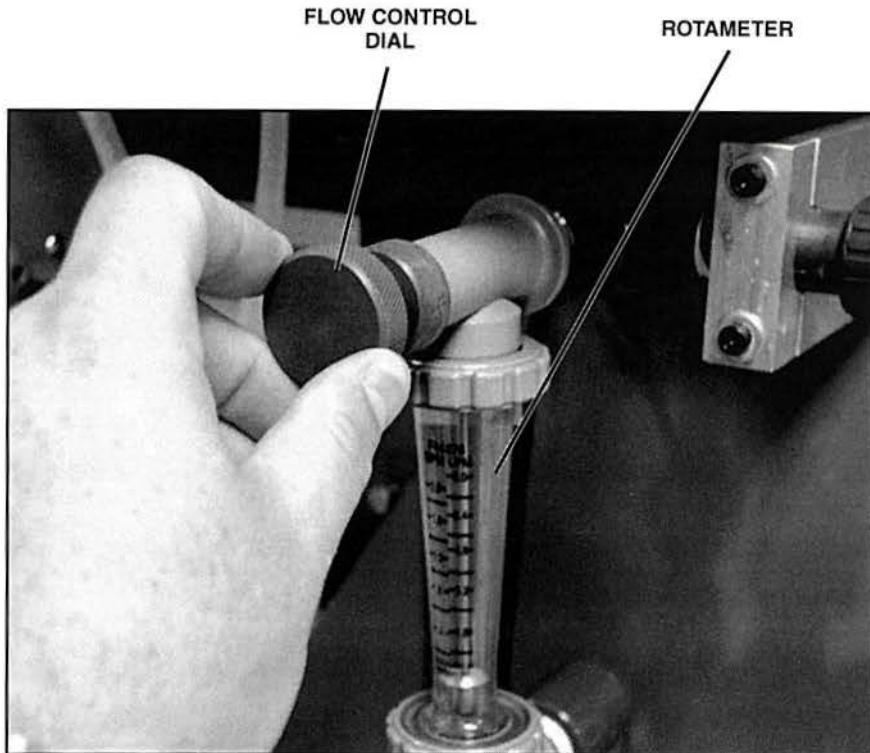

Figure 55. Flow Control Dial on Rotameter
- A. Reduce the flow rate of the water through the main process line by turning the flow control dial on the rotameter, shown in figure 55, clockwise.